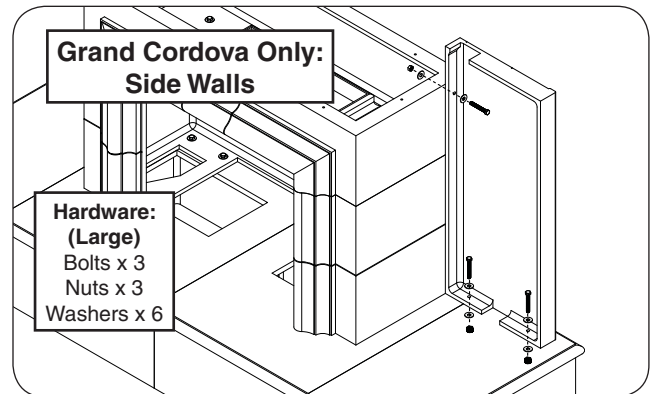

Fig. 18-2 Assemble rear side-wall (skip if n/a)
2. Place the rear side-wall piece beside the fireplace body as shown. Carefully align the pilot holes, and repeat the hardware installation process (large hardware kits). See Fig. 18-2.